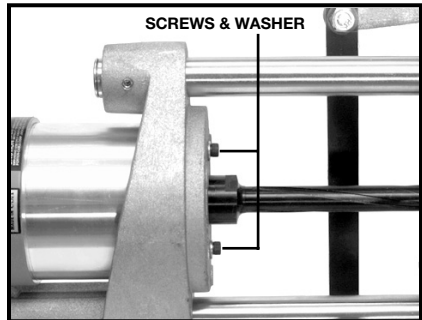

Fig. 4
3. Insert the two screw and washer assemblies (from Step 1) through motor carriage (see Fig. 4) and thread into the threaded holes in motor housing. Tighten securely with allen wrench.
EXAMPLE: If the mortise is to be 4" (101.6 mm) long, turn adjusting knob (U) until the Fig. 4 graduation mark lines up with the line on the crank pin indicating washer.